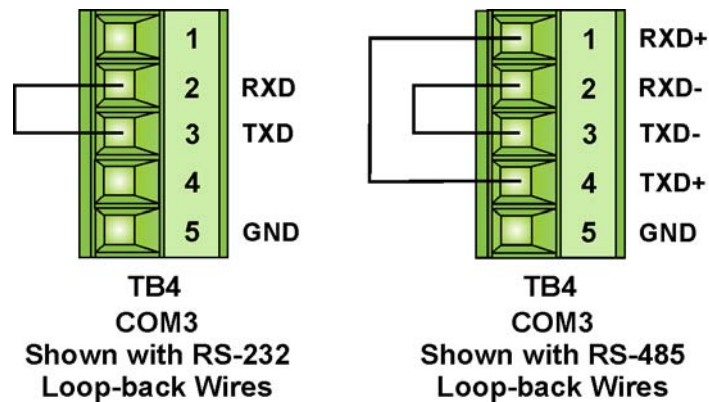

Figure 3-9 - COM3 RS-232 & RS-485 Loop-back Wires
- Port 3 - RS-232 use loop-back wires (see Figure 3-9)
- Port 3 - RS-485 use loop-back wires or CPU Switch SW3 (see Figure 3-9).